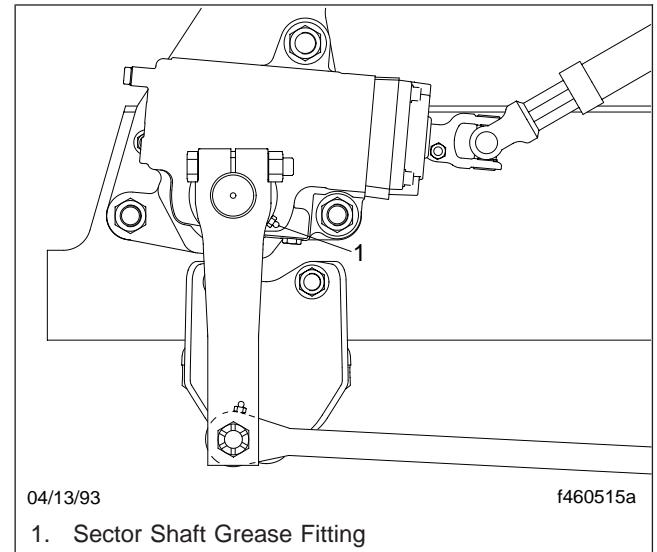

Fig. 5, Sector Shaft, TRW TAS Series
1. Wipe off debris from the grease fitting. See **Fig. 5**.